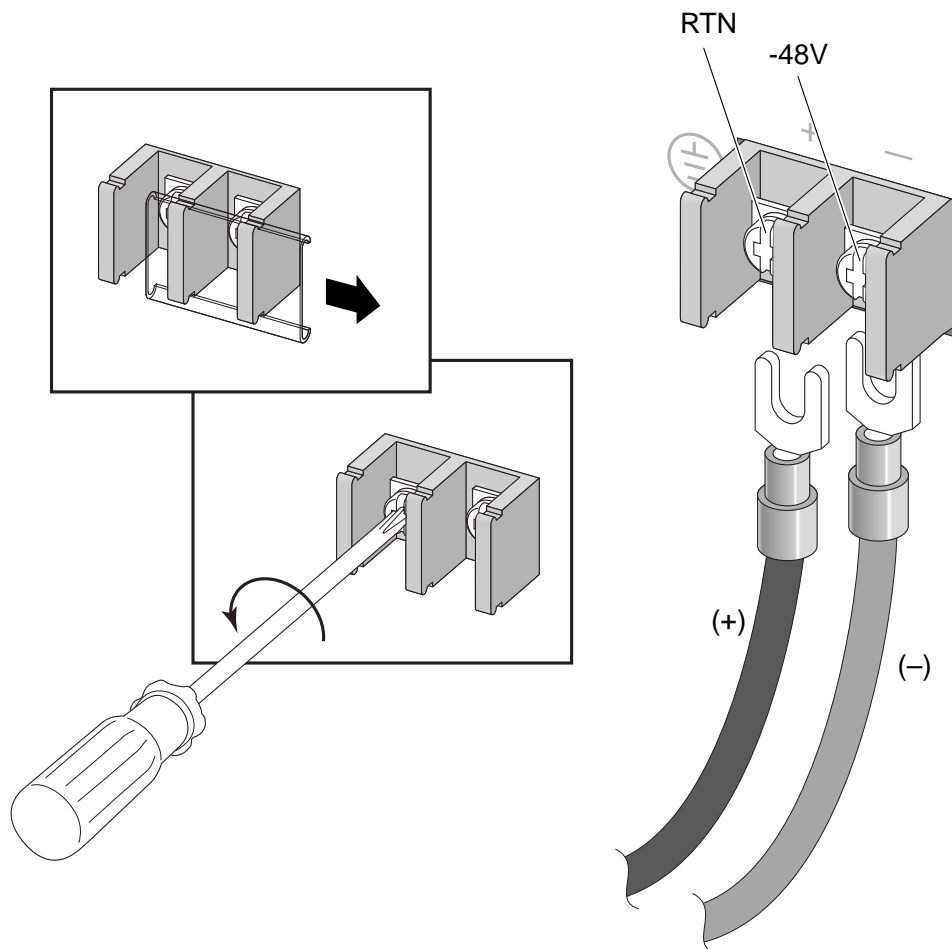

Figure 248: Connecting the DC Power Cables (Part 1)
- 3 Slide the cover off the terminal block (Figure 248: Connecting the DC Power Cables \(Part 1\) on page 279).